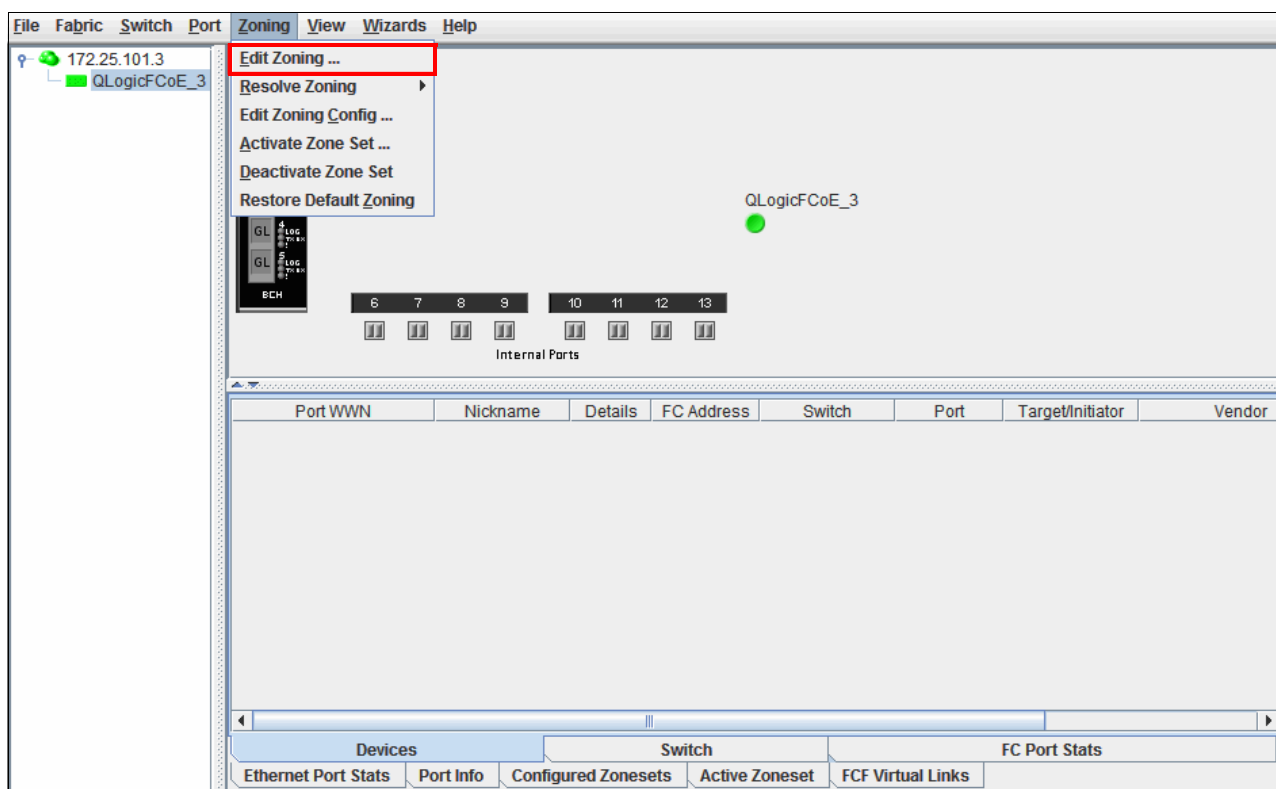

Figure 8-25 QLogic zoning configuration
6. Select **Zoning** → **Edit Zoning** (Figure 8-25).